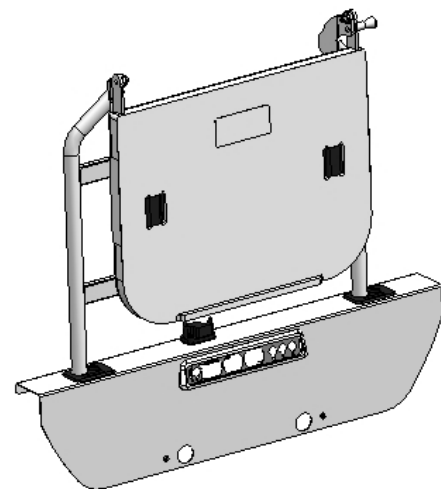

Figure 3
- Facing the right end of the head or foot casing. (See Figure 3)
3. To support a monitor (Figure 3), completely fold back the tray towards the inside of the bed and release the lock pin.